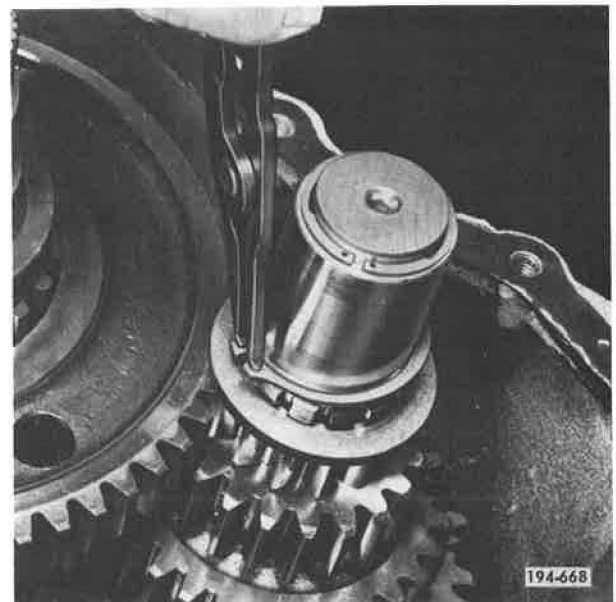

Figure 5-965. Installing Snap Rings
26. Install front countershaft selective thrust washer retaining snap rings, using snap ring pliers J-6435 or equivalent. See **Figure 5-965**.